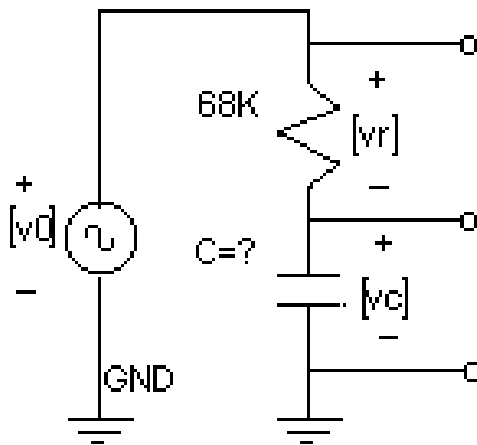

Figure E4-5 RC Low-pass ( $[V_c]/[V_0]$ ) and High-pass ( $[V_r]/[V_0]$ ) filters
1. Build the circuit in Figure E4-5 on your breadboard, with  $C = 1nF$ . Mount a coaxial TEE connector and  $50\Omega$  termination to the output ( $V_0$ ) of the Function Generator. Connect the circuit to one branch of the TEE using coaxial cable with clip leads. Be sure the clip lead from the shield of the coax is connected to GND on the circuit. The other clip lead connects to the resistor. Connect CH1 of the scope in parallel with the Function Generator  $[V_0]$ , using the BNC micro-clip cable. Connect CH2 of the scope to the capacitor  $[V_c]$  using clip leads. Note that the outer shields of both scope probes are connected to GND on the circuit. However, the leads from the voltmeter AC VOLTS are to be connected across the resistor  $[V_r]$  where neither point is at ground.